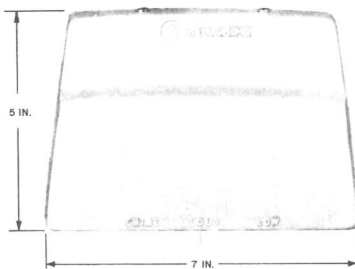

FIGURE 1. F1A Ringer with 125A Cover in Place
- 1.01 This practice covers the description, installation and maintenance procedures of the BELL-CHIME F1A ringer. Three types of signal operation are available. By operating a control lever as shown in Fig. 1, the customer selects either a CHIME, a LOUD ring, or a LOW ring.